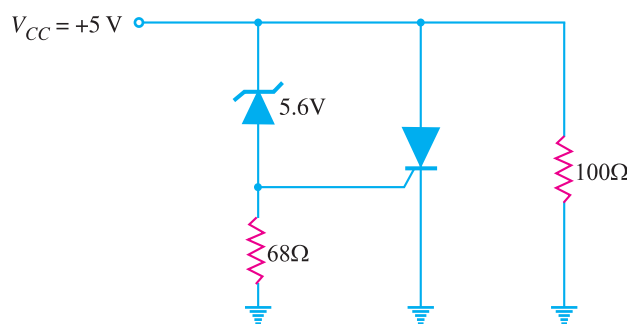

Fig. 20.26
**Example 20.13.** In Fig. 20.26, the SCR has a trigger voltage of  $0.7\text{ V}$ . Calculate the supply voltage that turns on the crowbar. Ignore zener diode resistance.